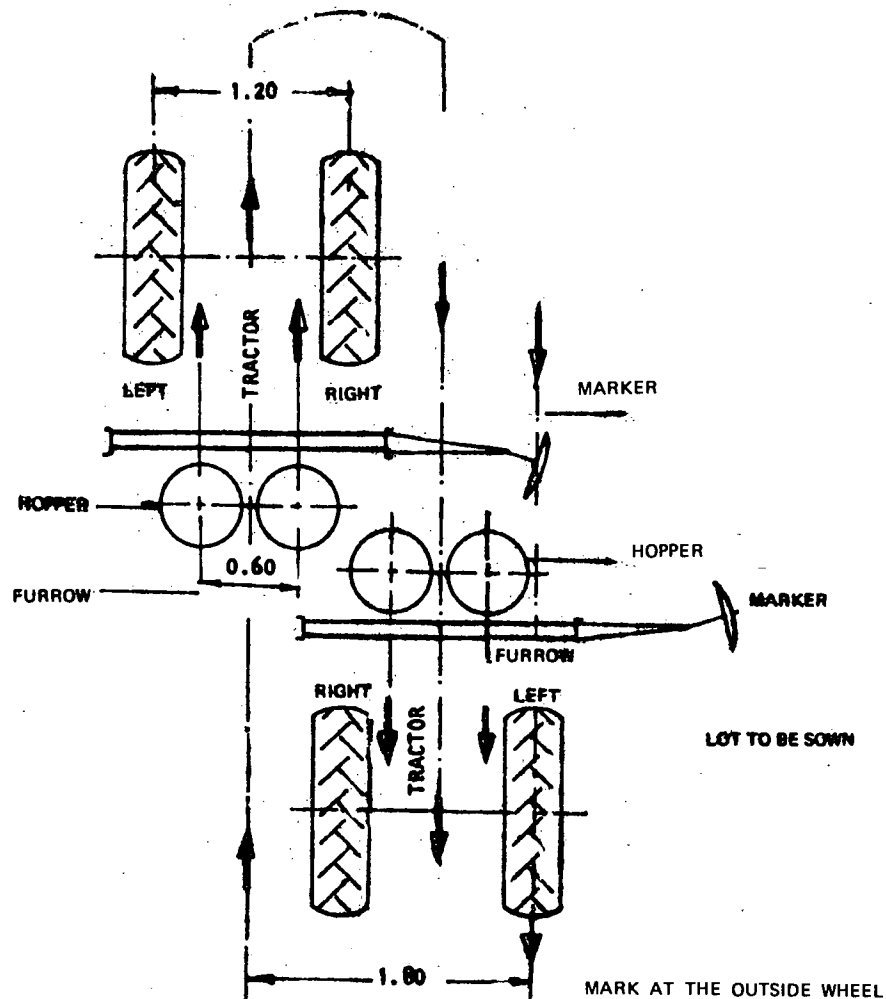

Fig. 5
- Three times the distance between furrows if one of the wheels is used as reference (Fig. 5).